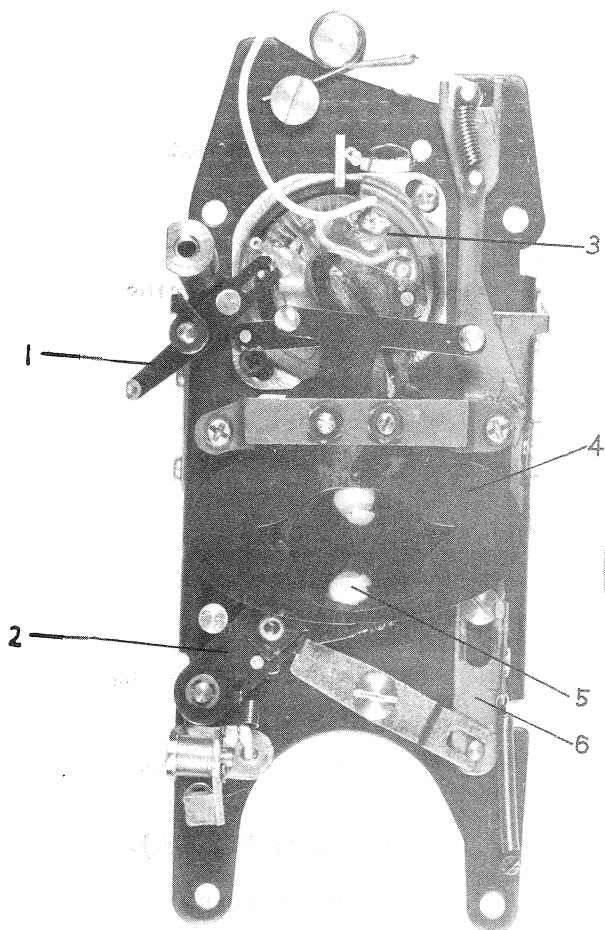

Fig. 11
- b-6. Adjust focus of master lens (5 in Fig. 11).
- b-1. Inspect, adjust, remove, and replace the aperture blade (4 in Fig. 11).
- b-2. Inspect, adjust, remove, and replace the meter (3 in Fig. 11).
- b-3. Inspect, adjust, remove, and replace 85 filter (2 in Fig. 11).
- b-4. Inspect, adjust, remove, and replace speed/sensitivity selector filter (6 in Fig. 11).
- b-5. Inspect, adjust, remove, and replace the aperture indicator connecting plate (1 in Fig. 11).
- b-9. Adjust focus of master lens. Remove and replace the master lens (5 in Fig. 11).